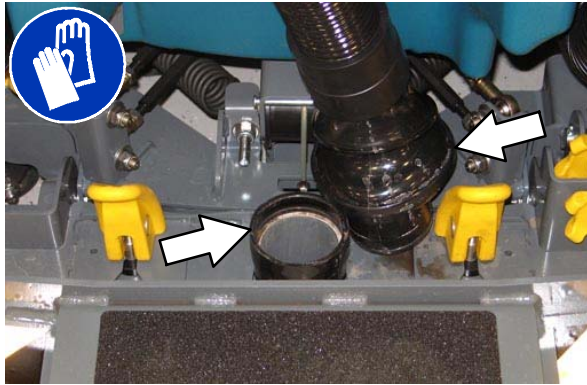

FIG. 1
1. Disconnect the vacuum hose from the rear squeegee assembly. (Fig. 1)